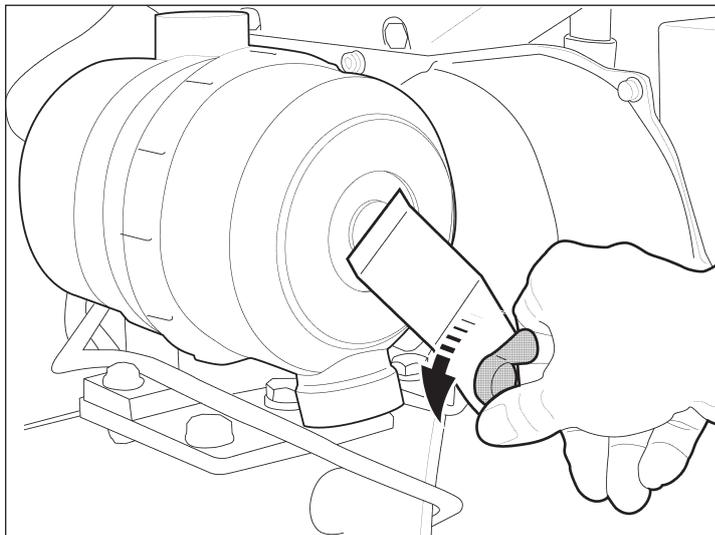

Fig. MW4: Undoing the clamp
- ➔ Release the clamp on the air filter cover (*Fig. MW4*) and fold it to one side.